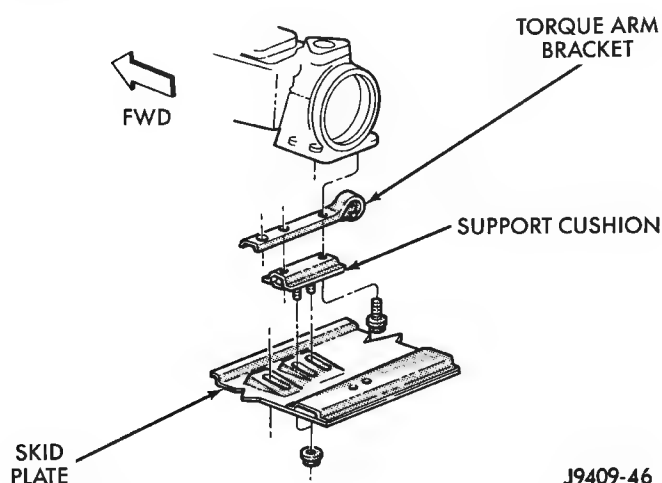

Fig. 12 Rear Mount—YJ Vehicles (Manual Transmission)
- (1) Disconnect negative cable from battery.
- (2) Raise the vehicle and support the transmission.
- (3) Remove the nuts holding the support cushion to the skid plate (Figs. 12 and 13).
- (4) Remove the skid plate bolts and the skid plate.
- (5) **MANUAL TRANSMISSION:**
- (a) Remove the bolts holding the support cushion and torque arm bracket to the transmission (Fig. 12).
- (a) Position the torque arm bracket and support cushion to the transmission and install the bolts (Fig. 12).
- (2) **AUTOMATIC TRANSMISSION:**
- (3) Position the skid plate to the studs of the support cushion and install the nuts (Figs. 12 and 13). Tighten the stud nuts to 54 N·m (40 ft. lbs.) torque.
- (4) Install the skid plate bolts to the sill and tighten to 88 N·m (65 ft. lbs.) torque.
- (5) Remove the transmission support.
- (6) Lower the vehicle.
- (7) Connect negative cable to battery.